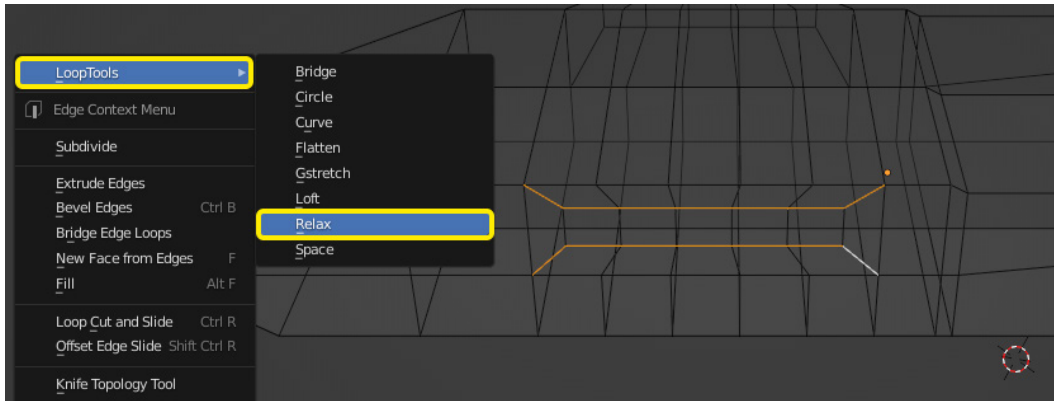

Figure 7.13 – Relaxing the edges
13. Select the edges like in *Figure 7.13*. Press **W** and select **Relax** in the **LoopTools** menu: